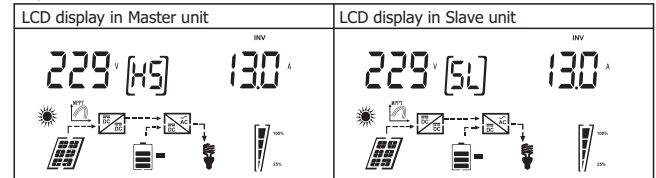

Figure 1
Step 2: On the bottom panel of inverter, there are 5 pins DIP switches, you can set it as follow Figure 1 .